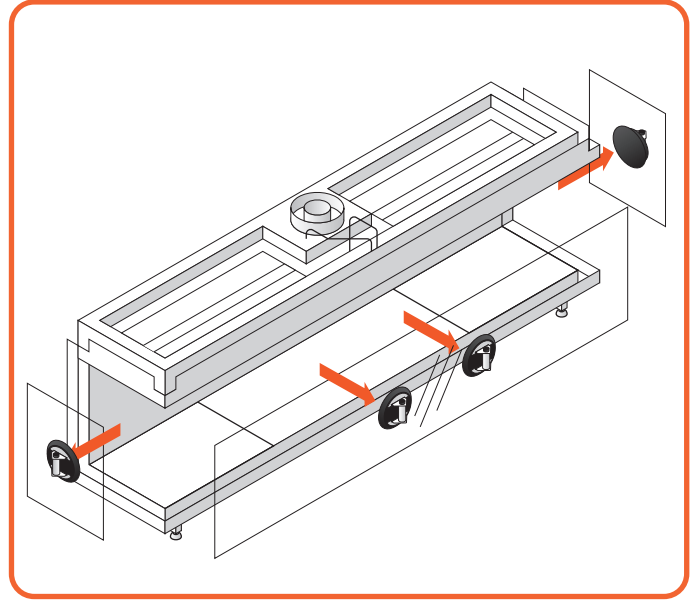

Figure 10.5 - Remove glasses
- Lift the glass out of the lower glass rail and tilt it out through the opening, as seen in **Figure 10.5**.